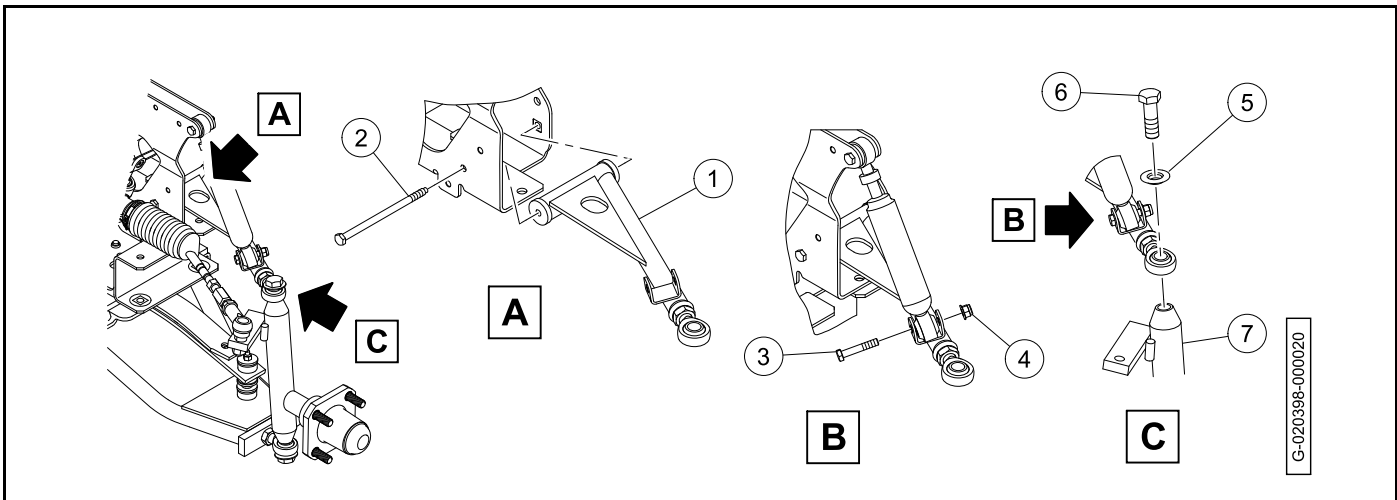

Figure 7-44
- Put the control arm (1) into position on the vehicle (**Figure 7-44**). See detail A.